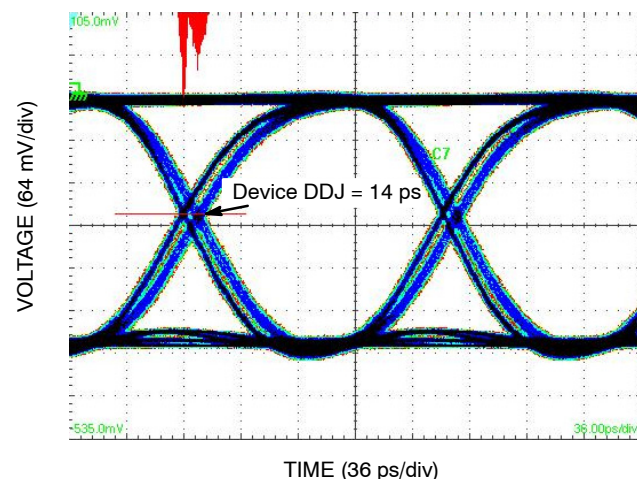

Figure 12. Typical Output Waveform at 6.125 Gb/s with PRBS 223-1 ($V_{INPP} = 400$ mV; Input Signal DDJ = 15 ps)
1. Measured by forcing $V_{INPP(MIN)}$ from a 50% duty cycle clock source. All loading with an external $R_L = 50\ \Omega$ to V_{CC} . Input edge rates 40 ps (20% – 80%). See Figure 12 and 14.